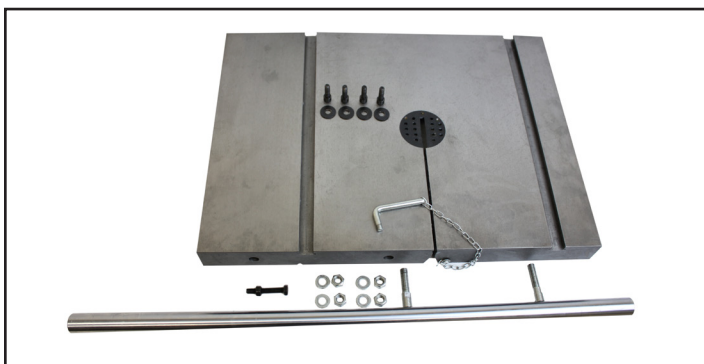

Figure 6: The Table and Leveling Pin.
**Remove the Leveling Pin:** Extract the Table Leveling Pin (Part #4B) from the front of the table. This pin ensures the two sides of the table remain level in the slot area Fig. 6.